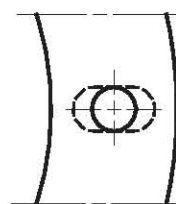

Fig. 4
- Widen, if necessary, the insulating gasket holes (4), (see fig. 4).